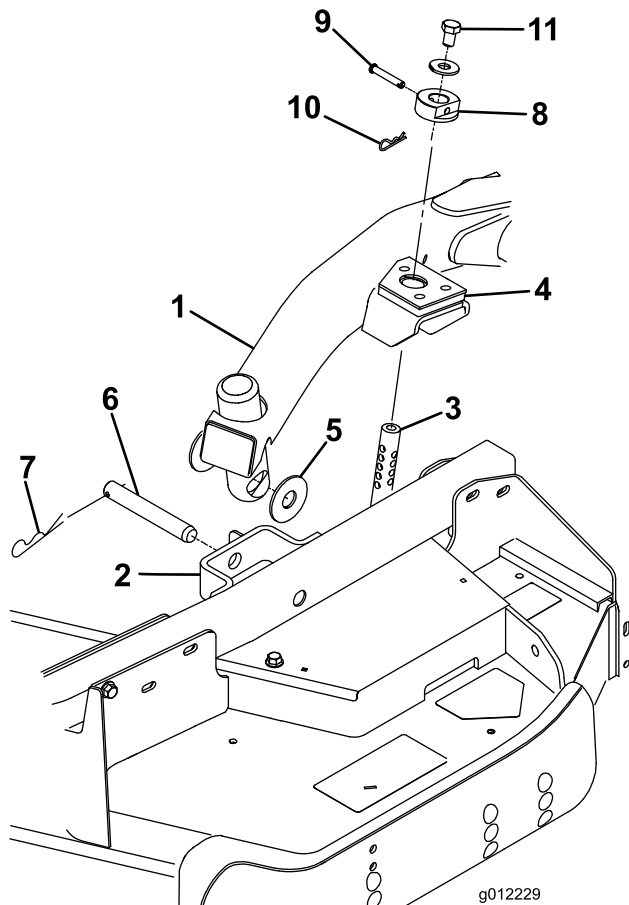

Figure 28
4. Move the lift lever to the Float position. Push a lift arm down until the holes in the lift arm line up with the holes in the castor arm bracket and the height of cut rod can be inserted into the lift arm pads (Figure 28).
the thrust washers between the lift arm and the castor arm bracket (Figure 28). Insert end of cotter pin into the slot in the castor arm tab to retain cotter pin.
9. Install the height of cut collars onto the height of cut rods and secure with the clevis pins and hair pin cottes (Figure 28). Head of clevis pin to be positioned toward the front of the deck.
10. Install a 1/2 x 3/4 inch bolt and a washer to top of each height of cut rod (Figure 28).